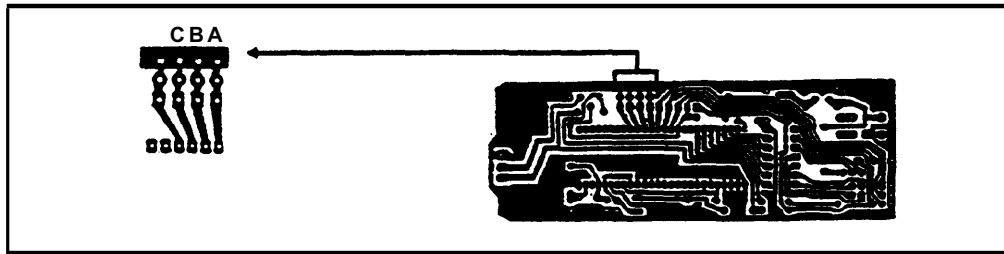

Figure 17
To alter an address (frequency) on the ‘Parent’ motor (ZZCM101), a connection(s) on the Central Processing Unit must be cut (Figure 17). The picture shows a CPU and an expanded view of the connection(s) that must be cut to change the address. Remember, only the ‘Parent’ motor needs to have its address changed. Regardless of the address the ‘Parent’ motor is set to, the ‘Kid’ motor(s) respond to the next higher address(es).
4. Locate connections that need to be cut. (Figure 17)